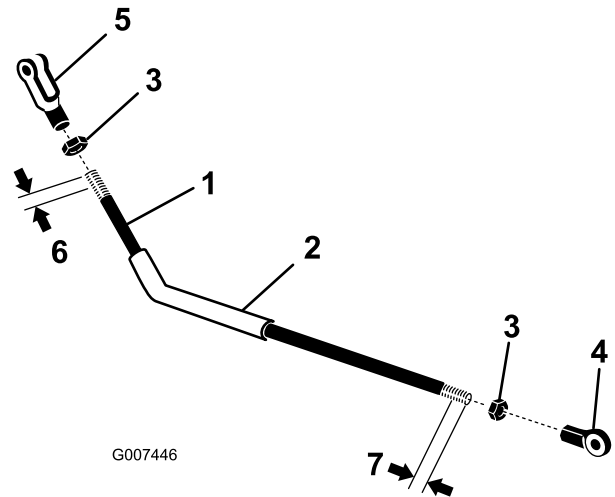

Figure 7
2. Thread a hex nut onto each end of the threaded rod (Figure 7).
3. Thread the ball joint end onto the longer end of the threaded rod (Figure 7).
4. Thread the linkage yoke onto the other end of the threaded rod (Figure 7).